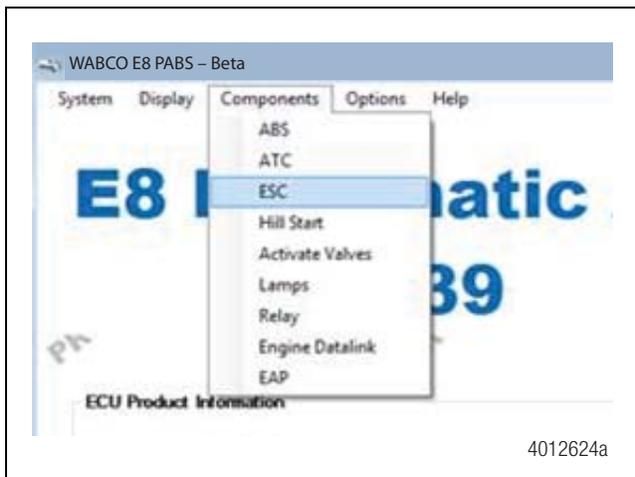

Figure 10.3
- From the bar menu at the initial screen, click on the “Components” button. A drop-down menu will appear. Select the option “ESC.” Figure 10.3.